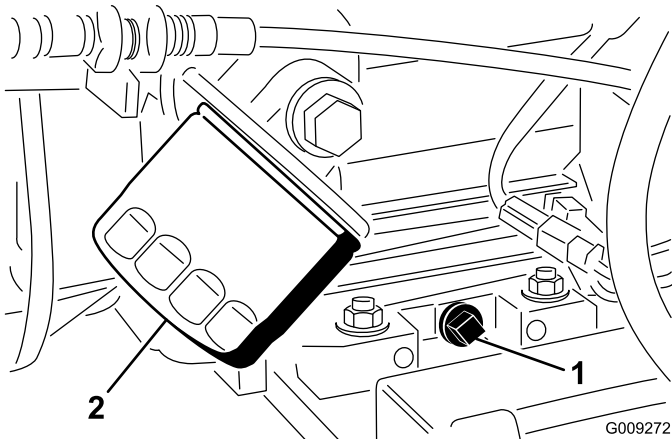

Figure 42
2. Remove the drain plug and let the oil flow into a drain pan (Figure 42).
4. Remove the oil filter (Figure 42).